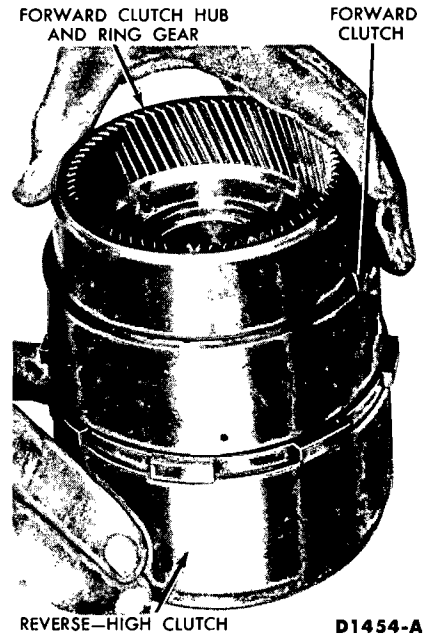

FIG. 112—Installing Forward Clutch Hub and Ring Gear
25. Install the forward clutch hub and ring in the forward clutch by rotating the units to mesh the forward clutch plates with the splines on the forward clutch hub (Fig. 112).